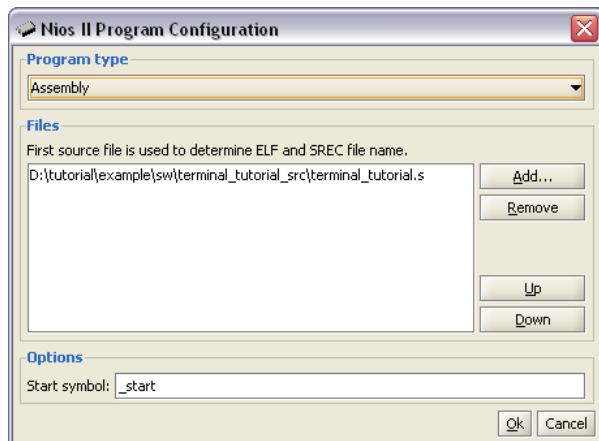

Figure 47. **Nios II Program Configuration** window for the tutorial on the **Terminal** window.
4. This step is not required but it is useful as a demonstration to verify that the correct configuration was loaded. Open the **Nios II Program Configuration** window and you should see one source file, similar to Figure 47. Note that the correct source file paths are listed, no matter where the tutorial files were copied. As long as the source file paths remain the same relative to the NCF configuration file, the Debug Client will be able to locate it correctly.